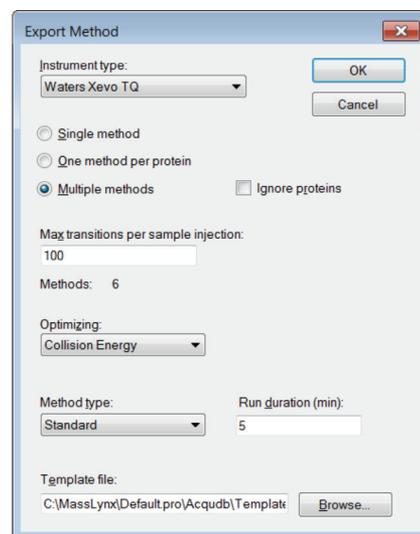
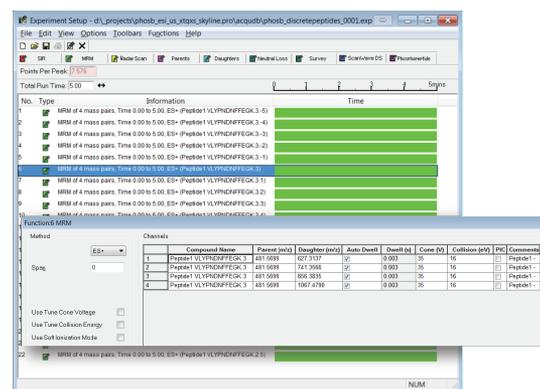

Figure 5. Export MS method settings for Masslynx.
Figure 6. MS method for collision energy optimization created in Skyline.
Step 3. Populate the peptide list by copying and pasting peptides individually in a list, or by importing a FASTA file. If you are working with proteins, you may paste the protein sequence to allow Skyline to perform in silico digestion. Create the MRM methods for injection under MassLynx by selecting File > Export > Method. Choose Waters Xevo for instrument type, select "Multiple methods", "Max transitions per sample injection" = 100, select "Collision Energy" for "Optimizing," "Method type" is "Standard", and browse in an MRM method template (Figure 5). With these settings, our optimization will be complete in 6 injections taking a total of 30 minutes. Figure 6 shows an example of the MS method created in Skyline. In this method there are 22 functions with a total of 88 transitions to be monitored.